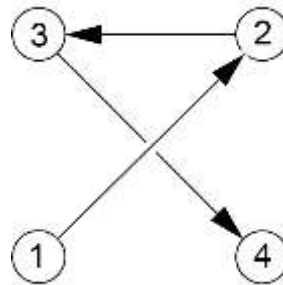

**Figure 8
- (1) Put a fuel collection container under the fuel injector (Figure 8).
- (2) Apply an identification label to each fuel line and disconnect the fuel lines attached to the fuel injector.
- (3) Let fuel drain out of the fuel injector and fuel lines into the fuel collection container.
- (4) Hold the fuel injector and remove the four nuts, lock washers, and washers from the fuel injector. Discard the lock washers.
- (5) Remove the fuel injector and its gasket. Discard the gasket.
- (6) Remove the fuel collection container.
- (1) Align the fuel injector on the engine with a new gasket (Figure 8).